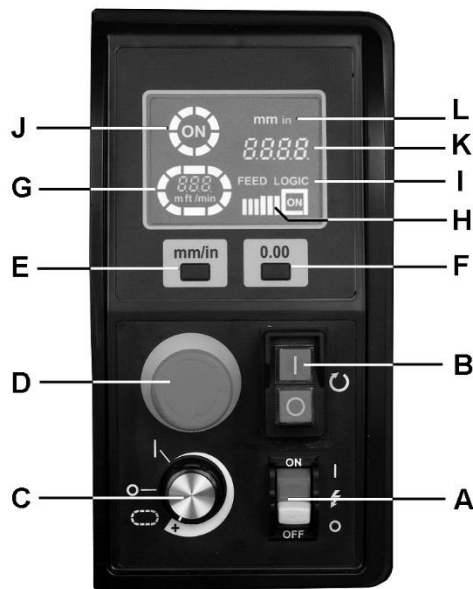

Figure 16
Figure 16 shows control panel functions.
Lower drum until it just contacts workpiece, then push zero depth reset button (F, Figure 16) to zero the setting of drum height from workpiece. The handwheel is then used to lower the drum in exact increments for each pass, by viewing the depth on the control display (K).
Press E-stop button (D, Figure 16) to shut down all machine operations. When E-stop is pressed, drum motor stops and “ON” (J) goes dark on display. Conveyor motor also stops, and racetrack (G) flashes.
speed dial (C, Figure 16) must be returned to OFF position before restarting machine.
The Feed Logic control continuously monitors the load on the drum motor, and automatically regulates the speed of the conveyor motor to maintain highest feed rate without overload. When “Feed Logic” flashes and “ON” illuminates on the display (I, Figure 16), the Feed Logic control has detected too great a depth of cut and/or too fast a feed rate.